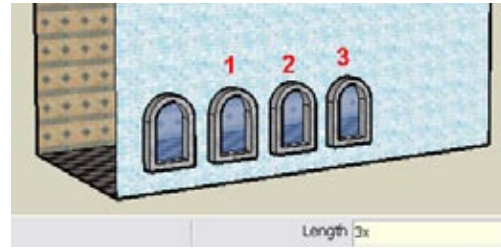

Figure 1-4
- Making an external linear array in SketchUp is easy: Type the number of copies you want, followed by an  $x$ , and then press Enter. Type  $3x$  and press Enter, for a total of four windows (Figure 1-4).